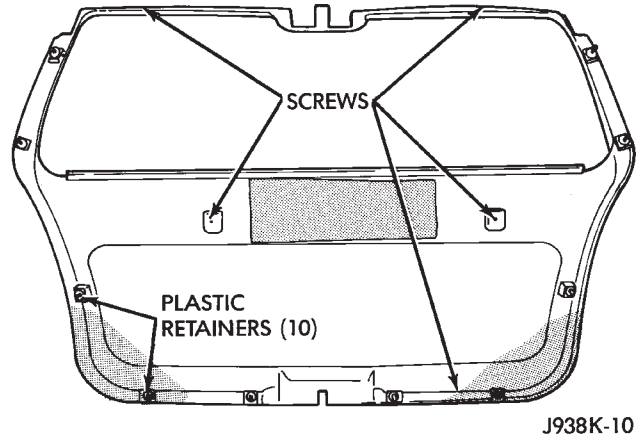

Fig. 14 Liftgate Trim Panel Removal
(1) Remove 5 screws holding liftgate interior trim panel.
(2) Remove the trim panel with a wide flat blade tool (Fig. 14).